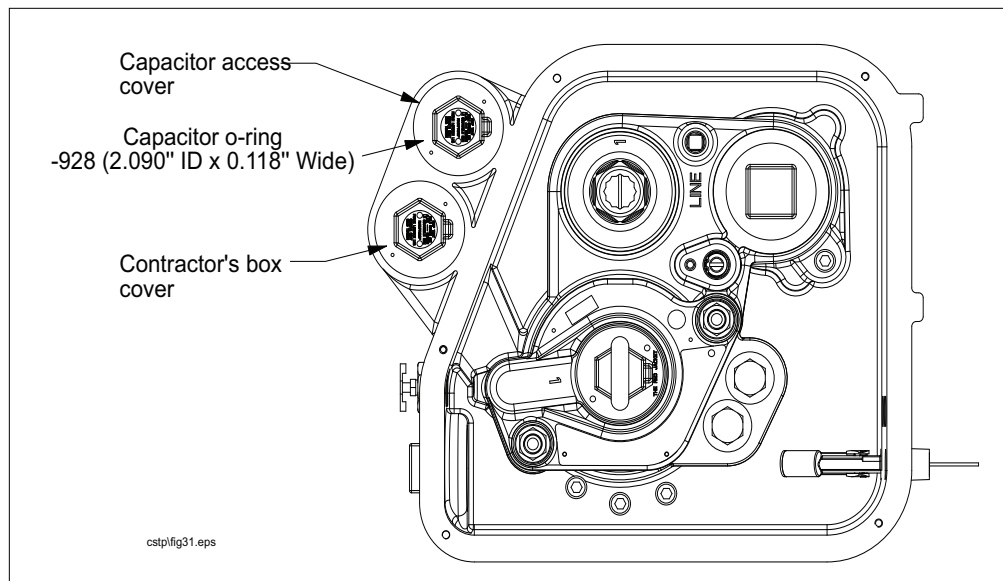

Figure 35. Locating Contractor's Box and Capacitor Compartment
1. Remove capacitor access cover and discard the o-ring (See Figure 35).
1. Remove the contractor's box cover (see Figure 35 on page 41). Remove and discard the o-ring from the cover. Set aside the cover.